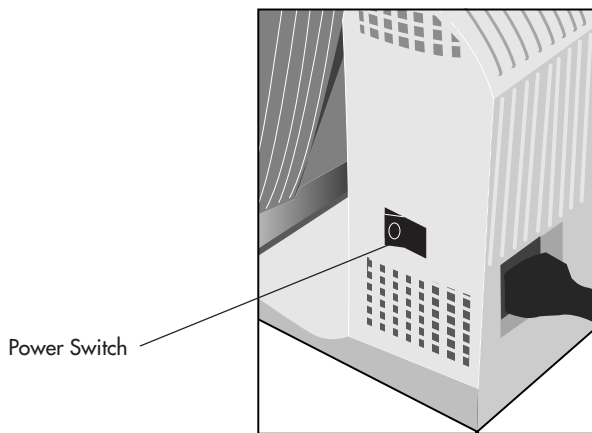

Figure E.1
5. Turn on the monitor (**Figure E.1**) and the computer.